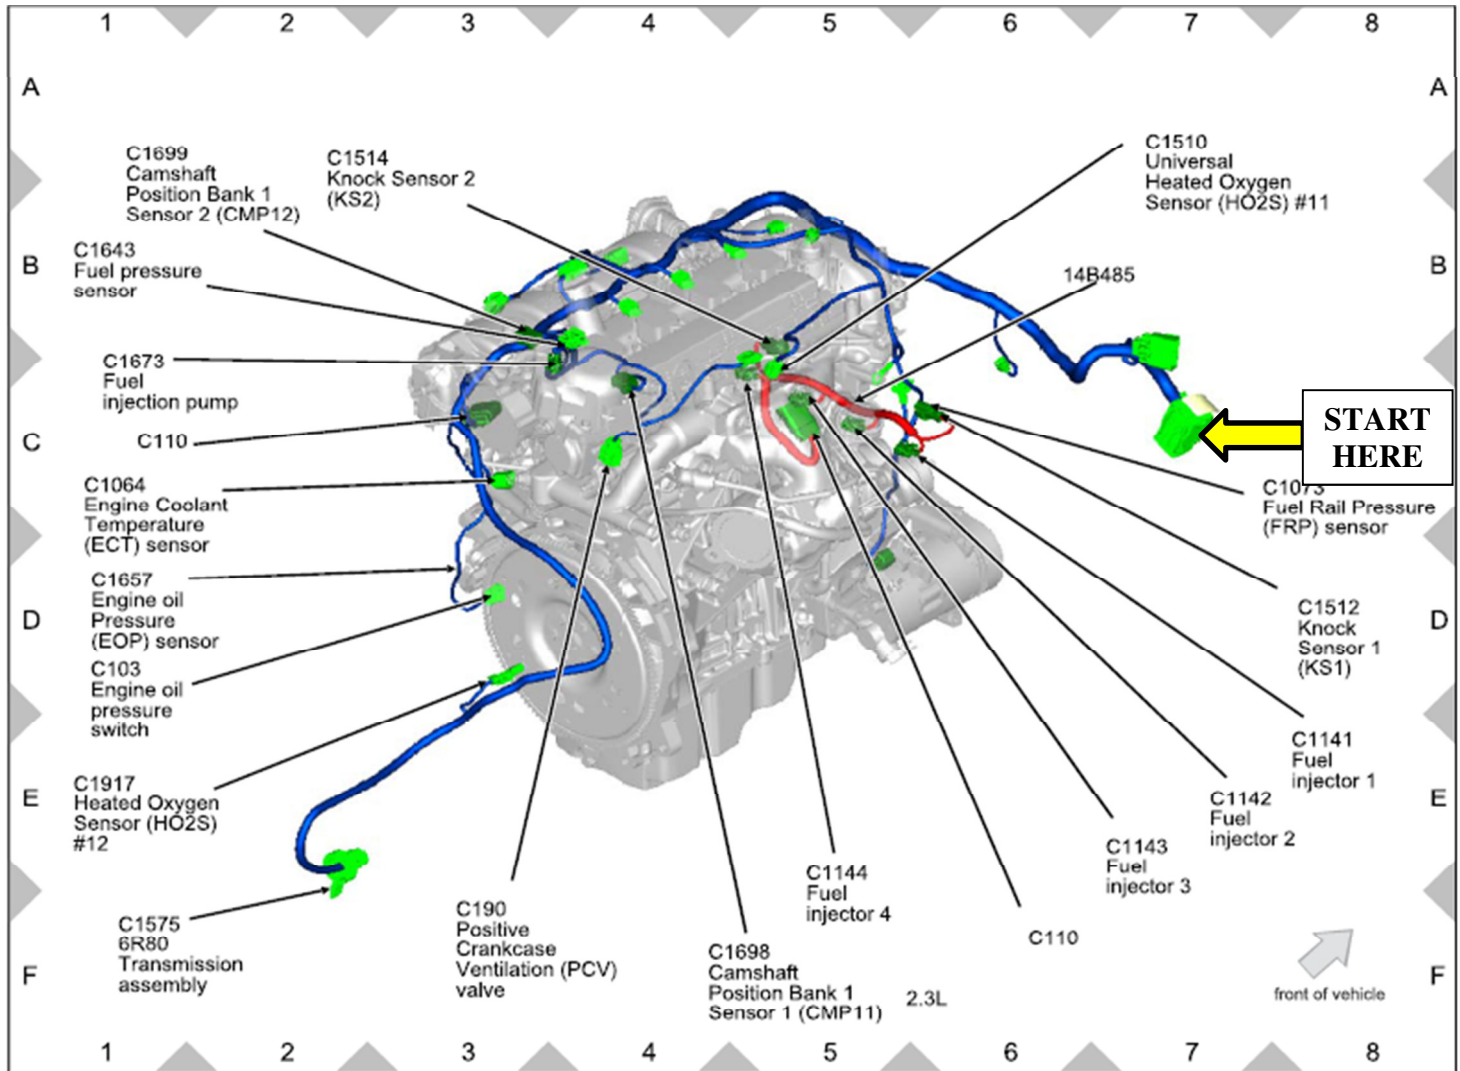

Figure 2 – Rear View of Engine.
3. Locate the PCM connector on the engine harness as indicated in Figures 2 and 3 by the "START HERE" arrow.